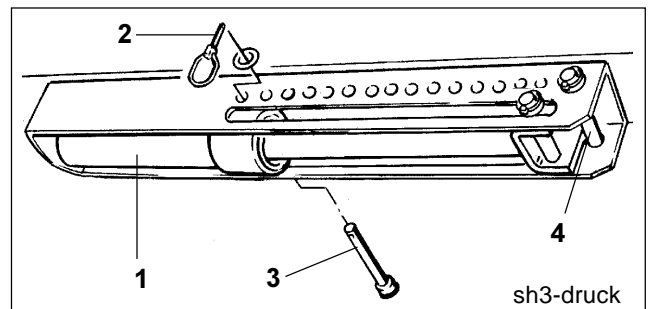

Fig. 13.7
Connect the hydraulic ram (Fig. 13.7/1) to a single acting tractor control valve (please refer to para. 3.6.4) and actuate the control valve only from the tractor cab.
Two pins (Fig. 13.7/3 and Fig. 13.7/4) function as stroke limiters for the stroke of the hydraulic ram (Fig. 13.7/1) placed within the setting segment. When the hydraulic ram is without pressure the ram is closed onto the lower pin (Fig. 13.7/3). Conversely, when pressure is applied to the ram it will stop at the position of the second top pin (Fig. 13.7/4).
- Pressurise the hydraulic ram (Fig. 13.7/1).
- Insert the pin (Fig. 13.7/3) into one of the holes of the quadrant plate and secure by using a clip pin (Fig. 13.7/2).